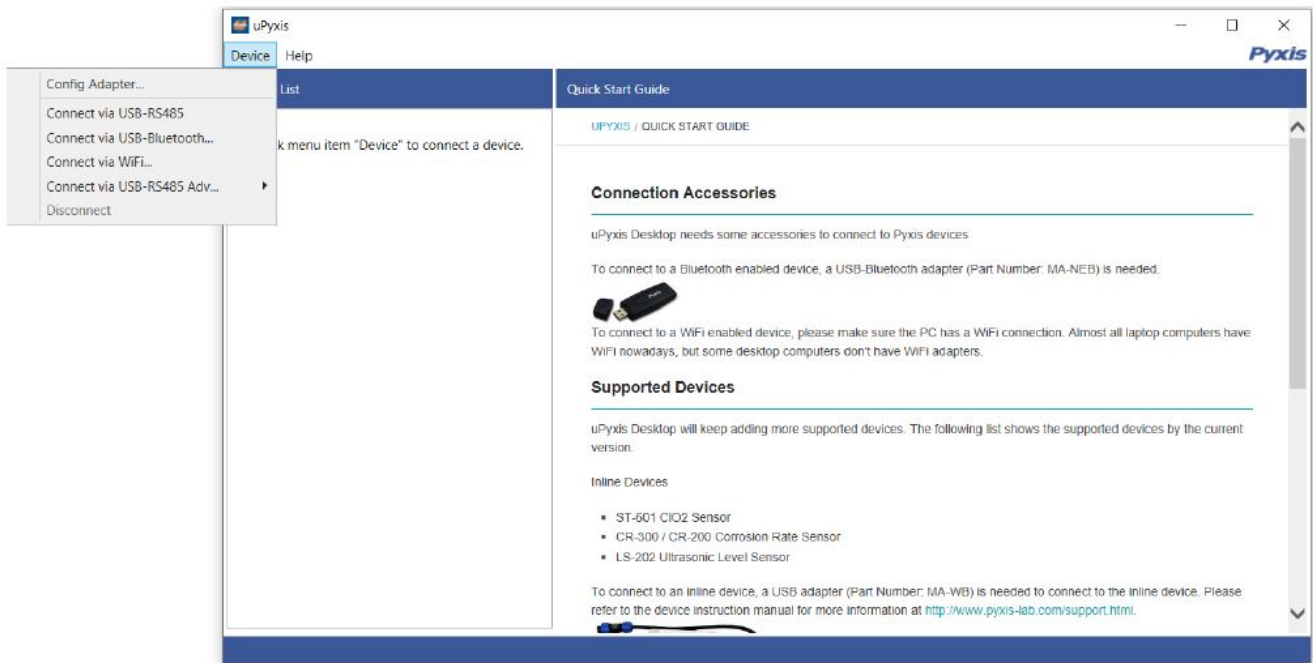

Figure 12.
3. On uPyxis® Desktop App, click Device Connect via USB-Bluetooth or Connect via USB-RS485 (Figure 12).
4. If the connection is successful, the ST-565 Series and its Serial Number (SN) will be displayed in the left pane of the uPyxis® window.